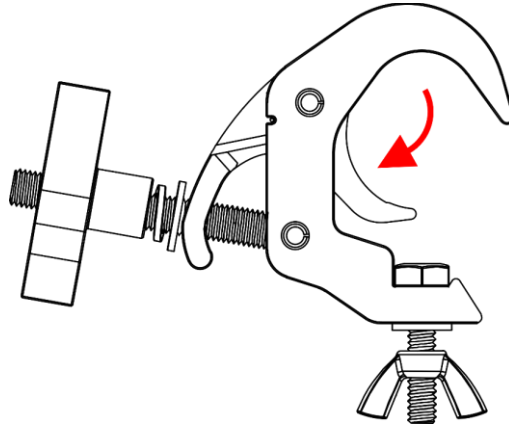

Fig. 04
01) Turn the **handle nut (08)** counterclockwise, to loosen it. The **lock (02)** will open. See Fig. 04.